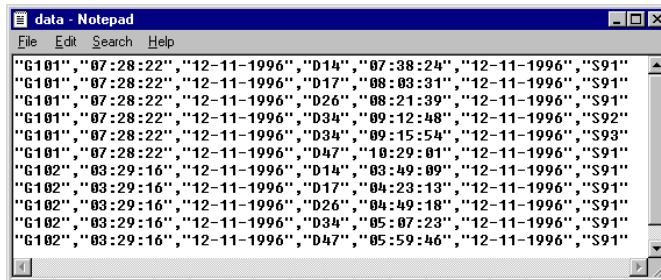

Figure 3-89 Data File Displayed
83. The data file opens (Figure 3-89). The data file shows the guard ID entry followed by the time and date; then the location entry followed by the time and date; and finally, the status entry.